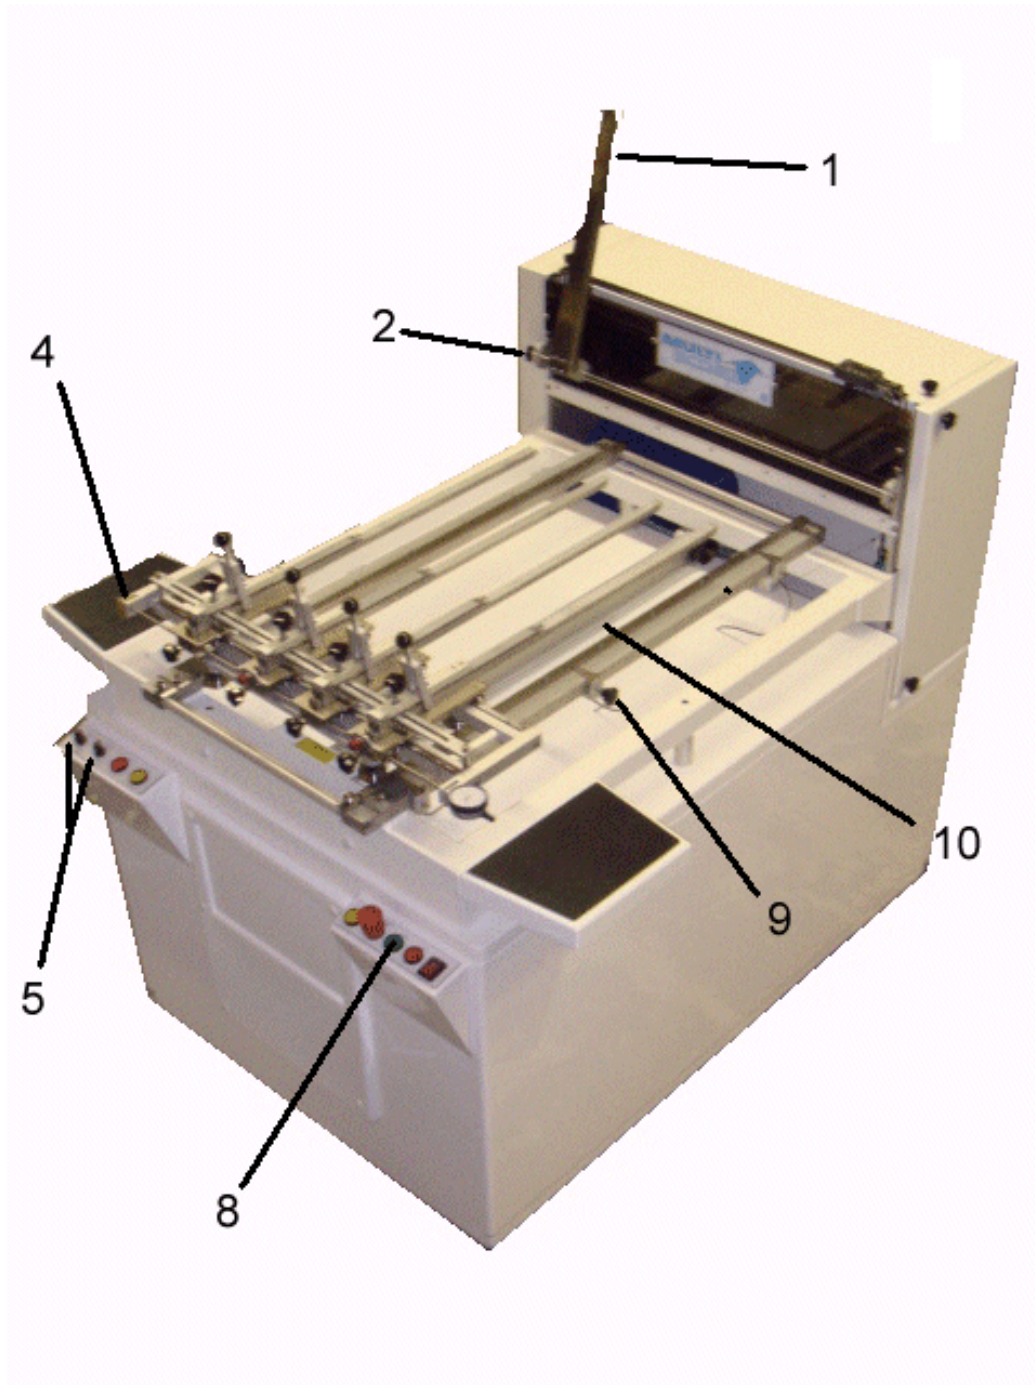
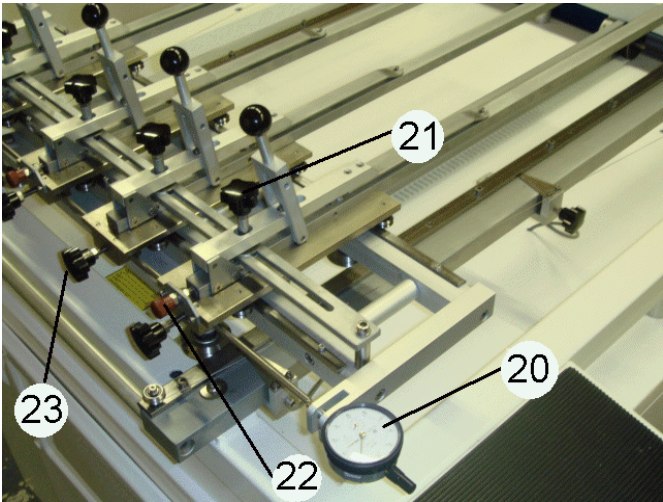

Figure 1
Figure 4
- Release the carriage arm clamps, then position the PCB on the carriage arms locating on the tooling pins, (figure 4, pointer 21).
- MULTI-SCORE ONLY: Release clutch (Figure 1, pointer 10) to allow the carriage to be manually moved.
- Lower the straight edge (Figure 1, pointer 1) to the horizontal setting position by releasing locking knob (Figure 1, pointer 2). Align the PCB track pattern to the straight edge by manipulating adjusters , pointer 22) and then return the straight edge into the vertical position and lock up. Lock carriage arm clamps (Figure 4, pointer 21).
- Return carriage. Engage clutch (Figure 1, pointer 10), ensuring the carriage is in the full extent of its travel. Switch power ON to the machine and start the cutter motor by depressing the START button (Figure 1, pointer 8). Ensure EMERGENCY STOP switch is not depressed and the cutters are rotating in the correct direction. (See INSTALLATION PROCEDURE on page 8).
- Press both CYCLE buttons simultaneously the carriage will index forward into the cut position and then return to the start position. Adjust non-contact switches (Figure 1, pointer 9) until the leading edge of the PCB panel travels at fast speed until it is in line with the acrylic facia of the cutter housing mechanism. At this stage, it must then slow to the pre-set cutting speed. Both speeds are adjustable using the potentiometers, IN - SPEED - OUT (Figure 1, pointer 5). Trial and error will determine the best cutting and travel speeds. Cycle the machine several times until you are confident you have achieved the optimum speeds and the best cut results.
- Inspect the PCB to ensure score lines are in the correct position. If they are found to be to one side of the desired position, tighten micro-manipulator clamps (Figure 4, pointer 23) and release clamping screws (Figure 4, pointer 21) and index the carriage mechanism across, using adjuster (Figure 1, pointer 4). Read the amount of movement off the gauge (Figure 4, pointer 20) and re-tighten clamping screw. Run a sample PCB panel through the machine and make further inspections.